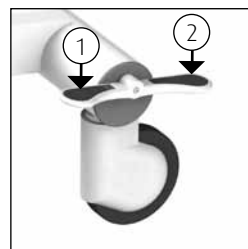

Figure 3 Semi-central braking and moving forward.
- The semi-central operating pedal for the brakes is the pedal at the head-end and foot-end on both sides of the stretcher (See figure 3).
- The brake on the Marina can be applied by moving the inside of the pedal at the head and foot end downwards, using your foot (1).
- The swivel wheel is disengaged by moving the outside of the pedal at the head and foot end downwards with your foot (2).